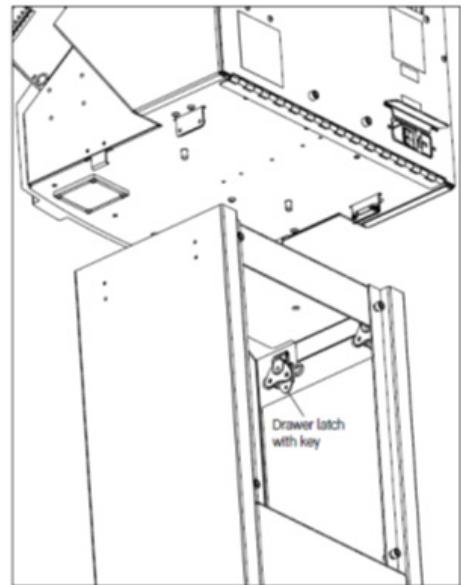

Figure 2: Assemble Control Unit to Stand
3. Align the base of the control unit with the top of the roller base and lower the control unit straight down onto the roller base (figure 2).